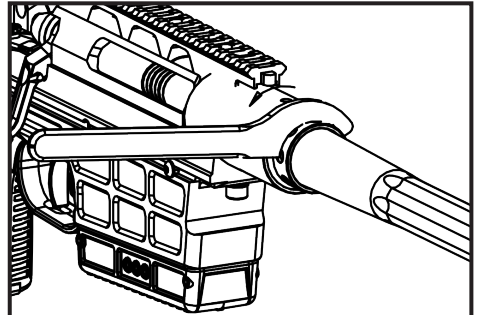

Fig. 38 - Opening the barrel nut
1. Completely open the barrel nut (Fig. 38) turning it counter-clockwise using the TRG M10 spanner wrench.